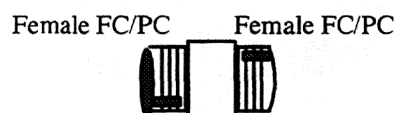
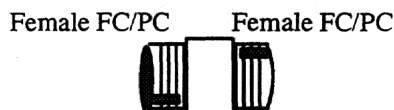

Figure 6-13 Single-Mode (or Multi-Mode) Coupler (all Metal), Female FC/PC to Female FC/PC.
Figure 6-20 Multi-Mode (or Single-Mode) Coupler (all Metal), Female FC/PC to Female FC/PC.
8. *Single-Mode (or Multi-Mode) FC/PC to FC/PC Coupler.* The single-mode FC/PC to FC/PC coupler is shown in Figure 6-13; note this is the same coupler as described and shown in Figure 6-20. It is all metal and has a female FC/PC connector (circular) at either end so as to join two male-ended single-mode (or multi-mode) cables. (Referred to as “N” in cable diagrams beginning with Figure 6-21.)
7. *Multi-Mode (or Single-Mode) FC/PC to FC/PC Coupler.* The multi-mode (or single-mode) FC/PC to FC/PC coupler is shown in Figure 6-20; note this is the same coupler as previously described and shown in Figure 6-13. It is all metal and has a female FC/PC connector at either end so as to join two male-ended multi-mode (or single-mode) cables. (Referred to as “N” in cable diagrams beginning with Figure 6-21.)